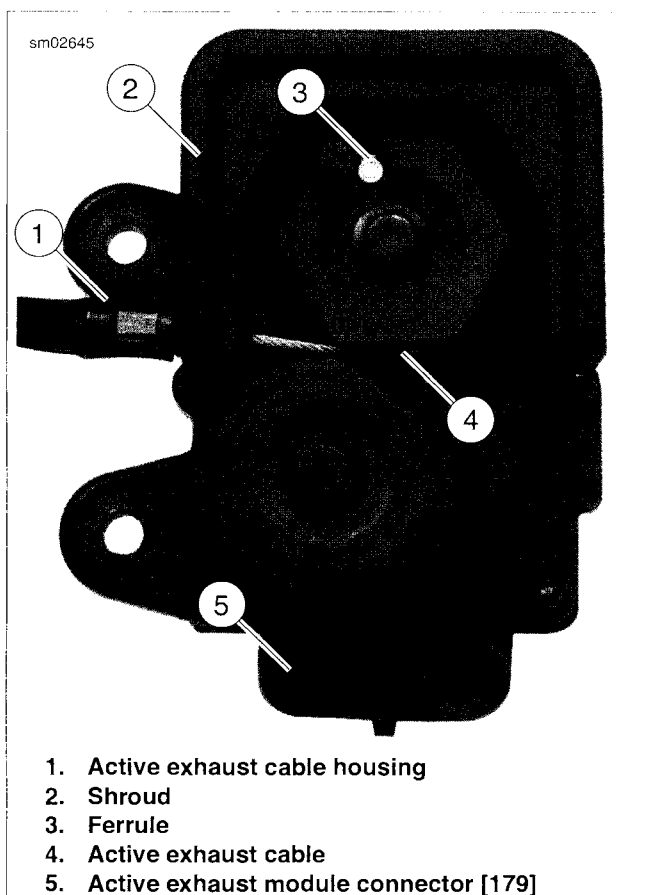
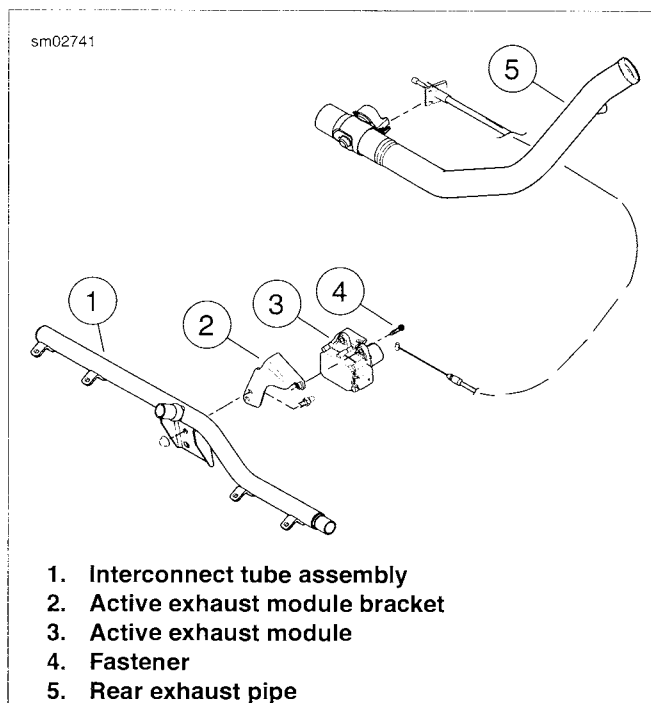

Figure 7-84. Active Exhaust Module
Figure 7-85. Active Exhaust Module Mounting
2. See Figure 7-84. Disconnect active exhaust module connector [179] (5).
3. Remove active exhaust cable housing (1) from notch in shroud (2). Remove ferrule (3) from active exhaust module to free cable (4).
4. See Figure 7-85. Remove module fasteners (4) from active exhaust module bracket (2).
See Figure 7-84. Active exhaust module shroud (2) can be replaced. Replace shroud if active exhaust cable housing (1) is a loose fit in shroud.
1. See Figure 7-85. install active exhaust module (3) to bracket (2) using fasteners (4). Tighten fasteners to 32-40 in-lbs (3.6-4.5 Nm).
2. See Figure 7-84. Install ferrule (3) into slot shown. Wrap cable around active exhaust module shroud as shown.
3. Clip active exhaust cable housing (1) into shroud (2).
4. Connect active exhaust module connector [179] (5).